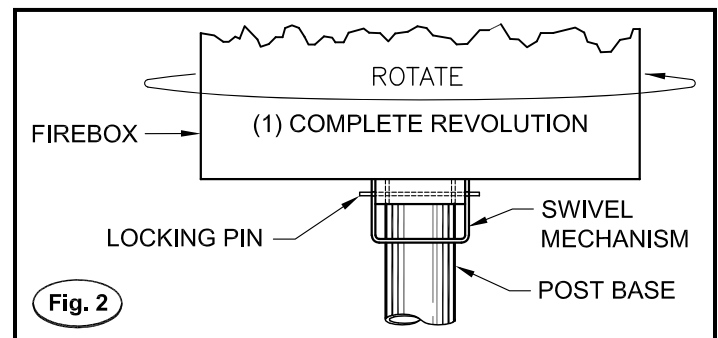

Fig. 2
3. Install the Grill on the Post Base. Line up the holes in the Grill Swivel Mechanism with the holes in the Post Base (see Fig. 2).
4. Insert the provided Locking Pin through the aligned holes leaving an **equal length** of pin protruding from each side of the Swivel Mechanism (see Fig. 2).
5. Rotate the Grill one complete revolution. The Locking Pin will be bent and drawn into the Swivel Mechanism to lock the Grill onto the Post Base (see Fig. 2).
3. To install and lock the Grill on the Post Base, follow steps 3 through 5 on Page 1 (see Fig. 2, Page 1).
4. To install and lock the Grill on the Post Base, follow Steps 3 through 5 on Page 1 (see Fig. 2, Page 1).